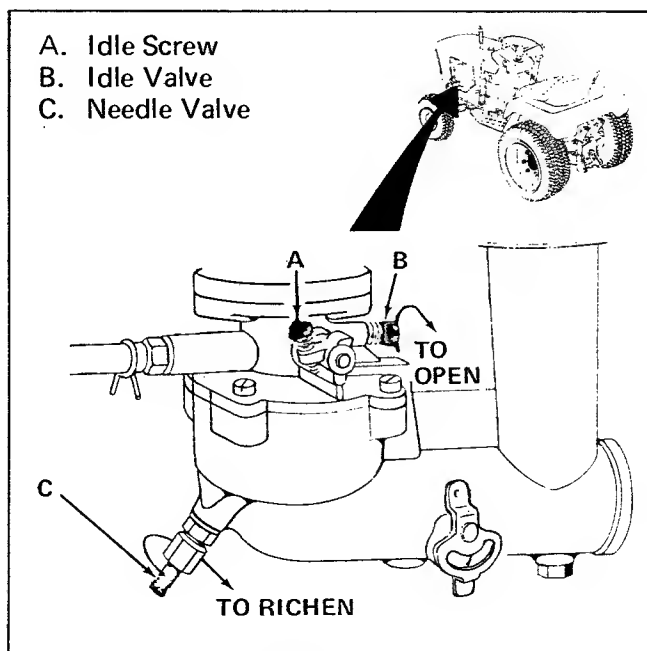

Figure 31. Carburetor Adjustment
Do not overtighten the needle valve (item C, figure 31). The needle valve is easily damaged when overtightened.
3. Turn needle valve (item C, figure 31) in (clockwise) until engine begins to miss to find lean mixture position.